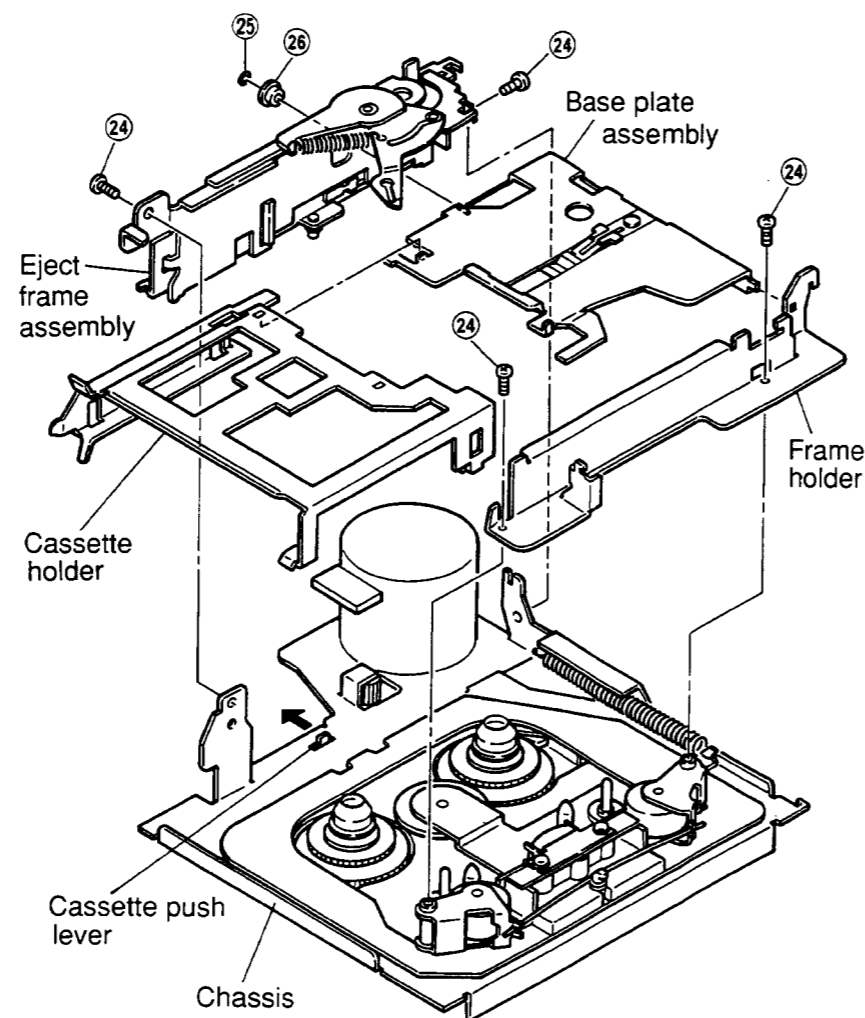

Figure 17
- (1) Remove four screws ㉔ and remove the eject frame assembly and the frame holder as shown in Figure 17.
- (2) Remove M1.2 lock washer ㉕ and plate base roller ㉖ and remove the cassette holder and the base plate assembly as shown in Figure 17.
- (3) Remount them following the removal steps in the reverse order.
2. When mounting the eject frame assembly, push the cassette push lever in the direction indicated by the arrow in the Figure 17.